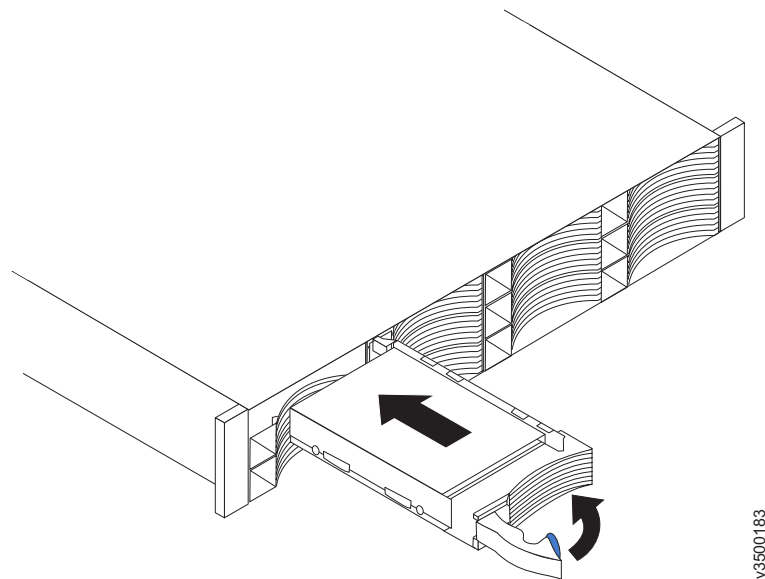

Figure 93. Installing and locking a 3.5-inch drive into its slot
14. Align the drive assembly with the guide rails in the bay (see Figure 93 on page 319).